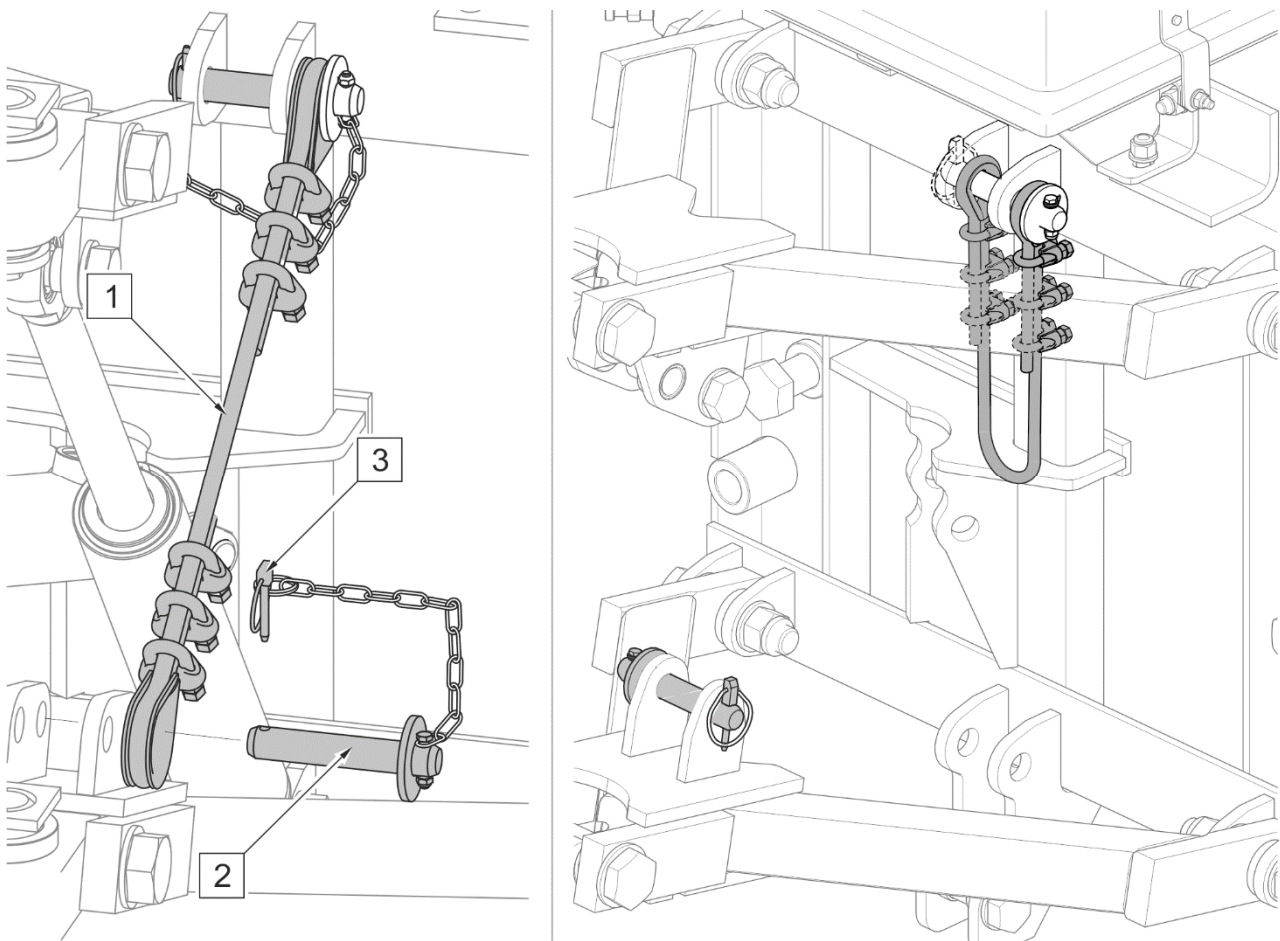

FIGURE 4.9 Releasing the transport protection
If the snowplough linkage system has been locked in upper transport position, release the transport protection just before lowering the linkage (FIGURE 4.9) in the following manner:
- take out cotter pin (3) securing lower pin (2),
- take out the pin (2) fixing the cable (1),
- suspend both cable ends (1) at upper fixing point (FIGURE 4.9),